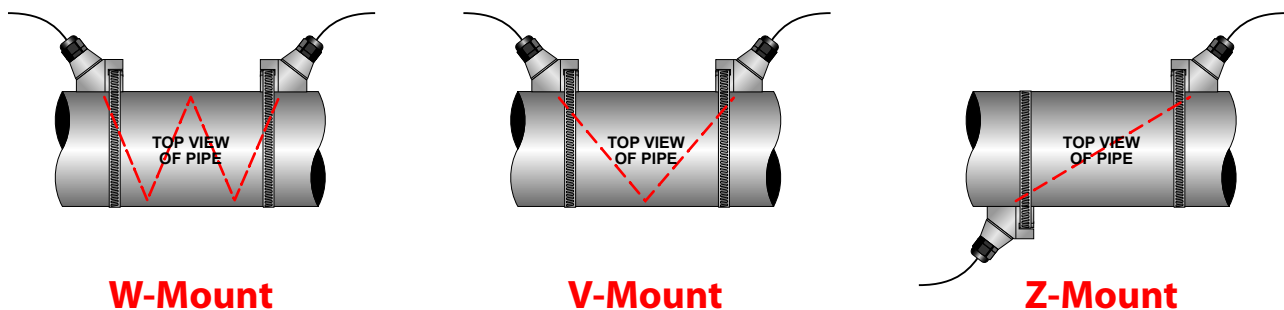
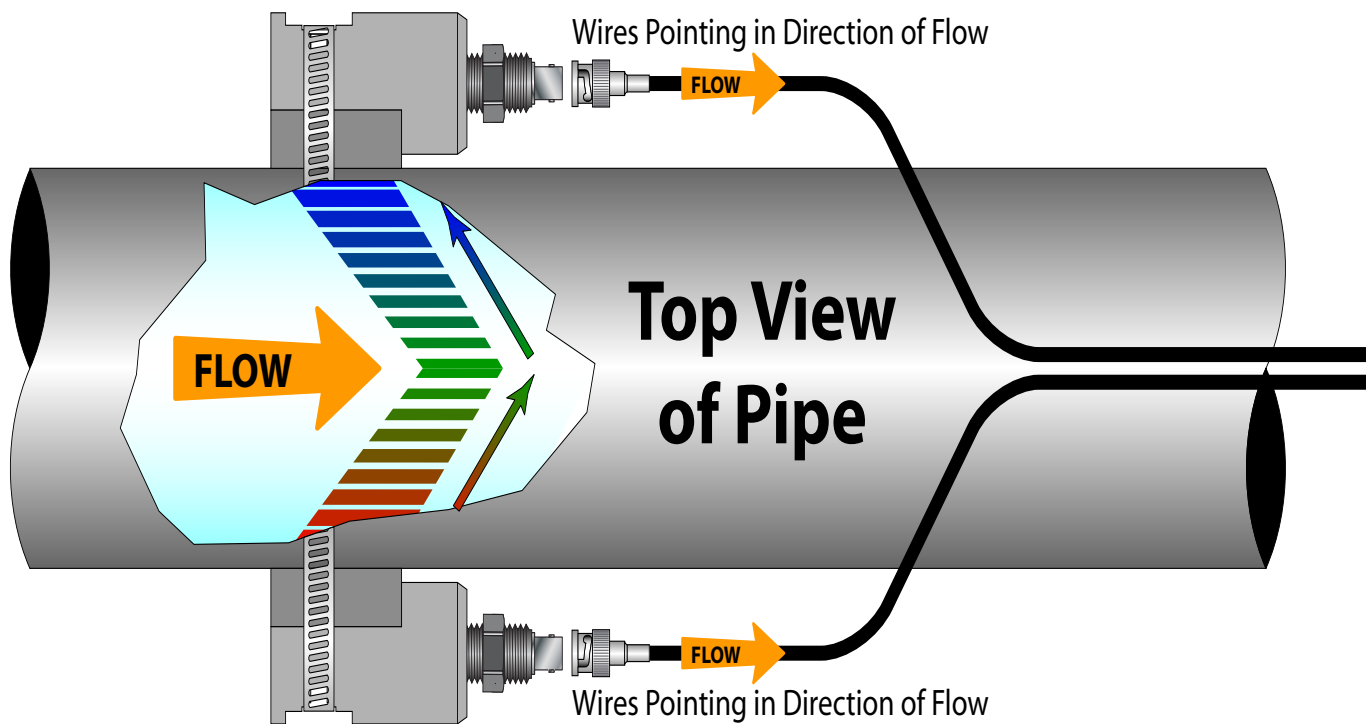

FIGURE Q.1 - TRANSIT TIME TRANSDUCER MOUNTING CONFIGURATIONS
FIGURE Q.2 - DOPPLER TRANSDUCER MOUNTING
- 2) If the application requires DTTN or DTTL transit time transducers select a mounting method for the transducers based on pipe size and liquid characteristics. See **Table 3.8**. Transit time transducer configurations are illustrated in **Figure Q.1** below.
NOTE: Transit time transducer wires go in opposite directions when DTTN or D TTL transducers are used (See Figure Q.1). DT94 Doppler transducer wires both go in the direction of flow. (See Figure Q.2)